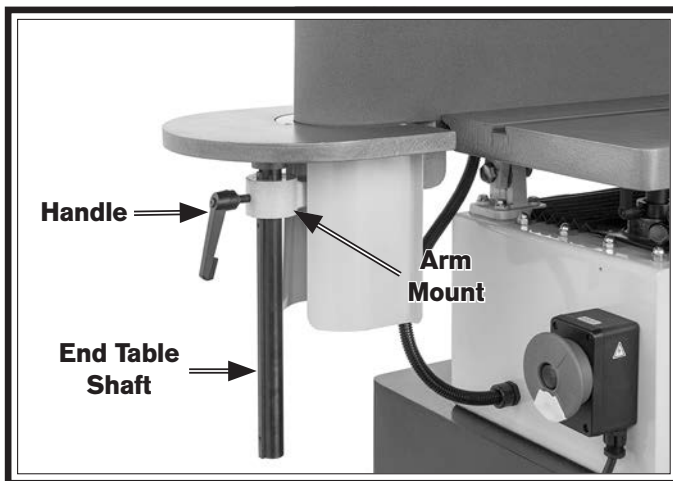

Figure 25. End table installed.
- 11.** Fully insert end table shaft into machine arm mount and secure with $\frac{3}{8}$ "-16 x 1" handle (see **Figure 25**).